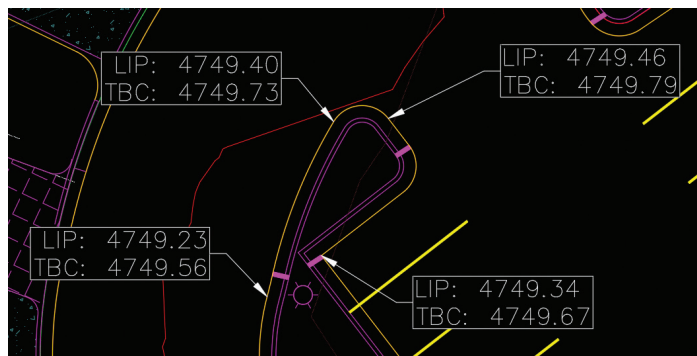

Figure 6
13. Now use the ADD LABELS dialog box to add the newly created label to a few spots. You can now see that by labeling the one spot, the mathematical equation we set up in the expression will then add the 0.33' we specified (Figure 6).